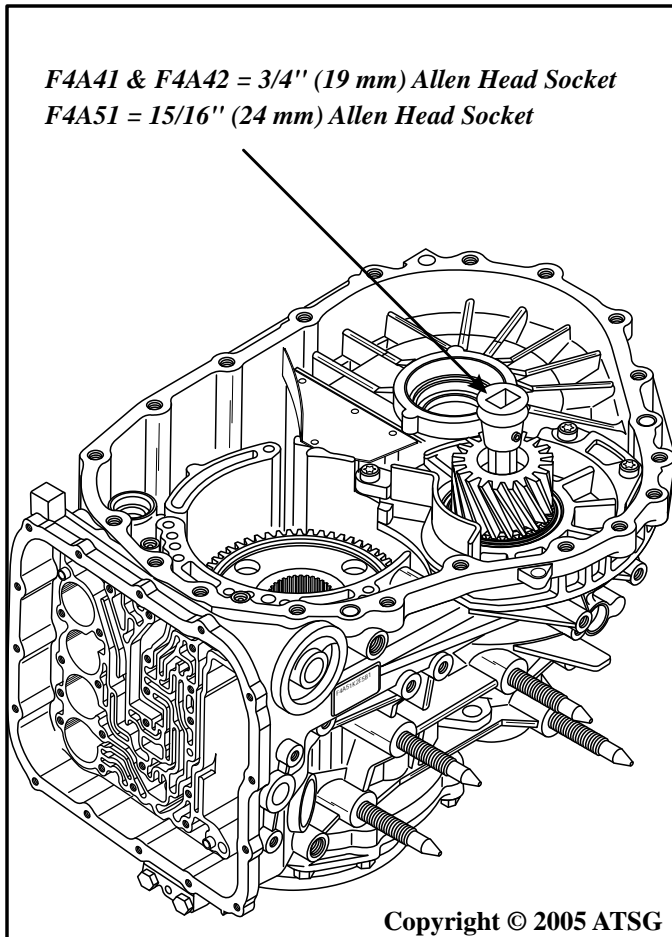

Figure 56
**Note: This nut is "Left Hand Thread", and must be turned clockwise to remove, and the pinion shaft must be held from the opposite side using the appropriate size allen head socket, as shown in Figure 56.**
73. Rotate the transaxle so the front side is facing up, as shown in Figure 56, and remove allen head socket.